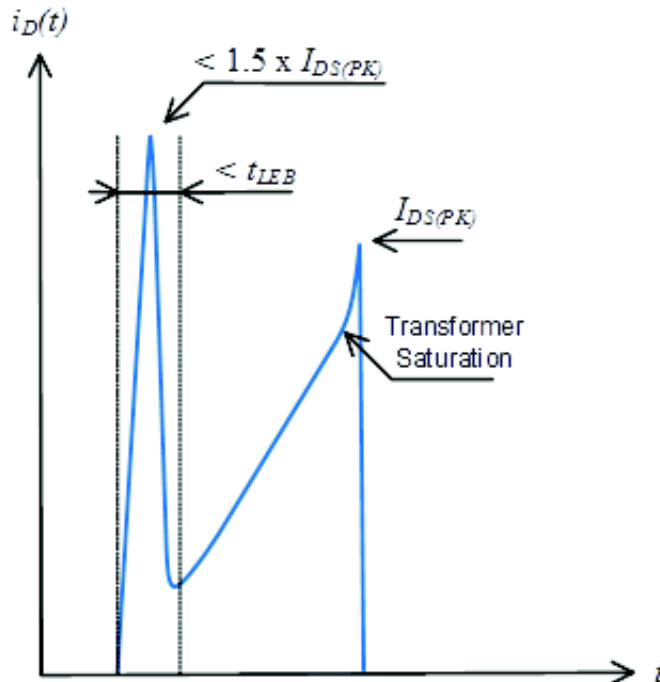

Figure 4. Spike Limits
3. Maximum drain current  $I_{DS(PK)}$  is obtained when the transformer saturates. It should not be mixed with short pulses that can be seen at turn on. Figure 4 below provides spike limits the device can tolerate.